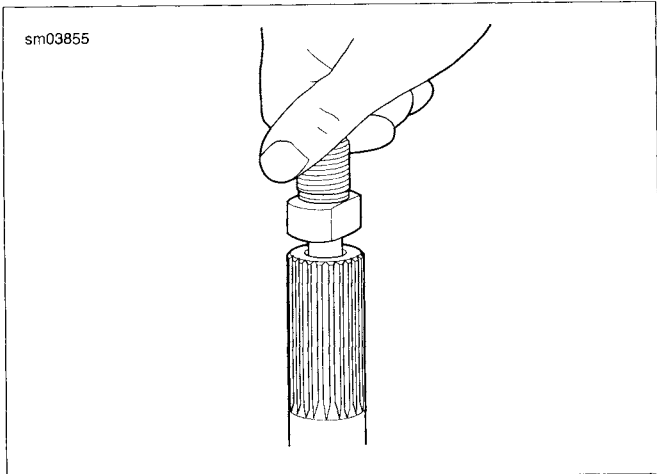

Figure 3-153. Thread Pilot Adapter into Sprocket Shaft
- a. See Figure 3-153. Thread pilot adapter into sprocket shaft.